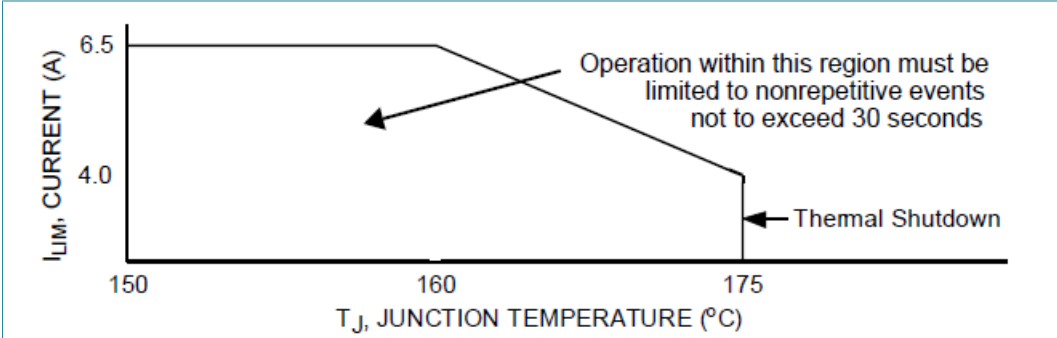

Figure 9. Active current limiting versus temperature (typical)
- [5] Load currents ramping up to the current regulation threshold become limited at the I_{LIM} value. The short-circuit current possess a di/dt that ramps up to the I_{SCH} or I_{SCL} threshold during the I_{LIM} blanking time, registering as a short-circuit event detection and causing the shutdown circuitry to force the output into an immediate 3-state latch OFF. See Figure 10 and Figure 11. Operation in current limit mode may cause junction temperatures to rise. Junction temperatures above $\sim 160\text{ }^\circ\text{C}$ causes the output current limit threshold to progressively foldback, or decrease with temperature, until $\sim 175\text{ }^\circ\text{C}$ is reached, after which the T_{LIM} thermal latch OFF occurs. Permissible operation within this foldback region is limited to nonrepetitive transient events of duration not to exceed 30 seconds. See Figure 9.
The current limiting threshold value is dependent upon the device junction temperature. When $-40\text{ }^{\circ}\text{C} \leq T_J \leq 160\text{ }^{\circ}\text{C}$, I_{LIM} is between 5.2 A to 7.8 A. When T_J exceeds 160 °C, the I_{LIM} current decreases linearly down to 4.0 A typical at 175 °C. Above 175 °C the device overtemperature circuit detects T_{LIM} and overtemperature shutdown occurs (see Figure 9). This feature allows the device to remain operational for a longer time but at a regressing output performance level at junction temperatures above 160 °C.